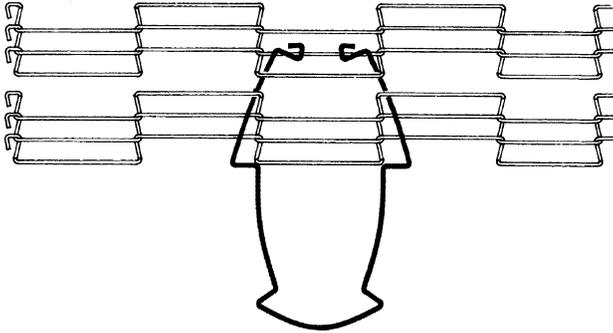

Figure 88: Inserting the Splicing Link
2. Join the two (2) ends of the mesh belt together by installing the connecting strand. Tie the ends of the mesh wire belt together to keep them from slipping apart while completing the wire belt splice.
- When bending the splicing strand, try not to bend the "Z" bend area of the strand, i.e., bend the straight portions of the strand. Refer to Figure 88.